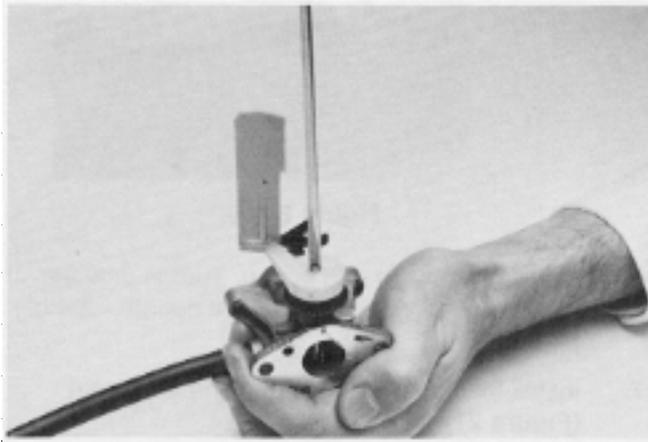

Figure 15
2. Remove the screw holding the air vane to the throttle shaft. Remove the air vane collar and governor spring and remove the throttle valve screw, plate and shaft (**Figure 15**).